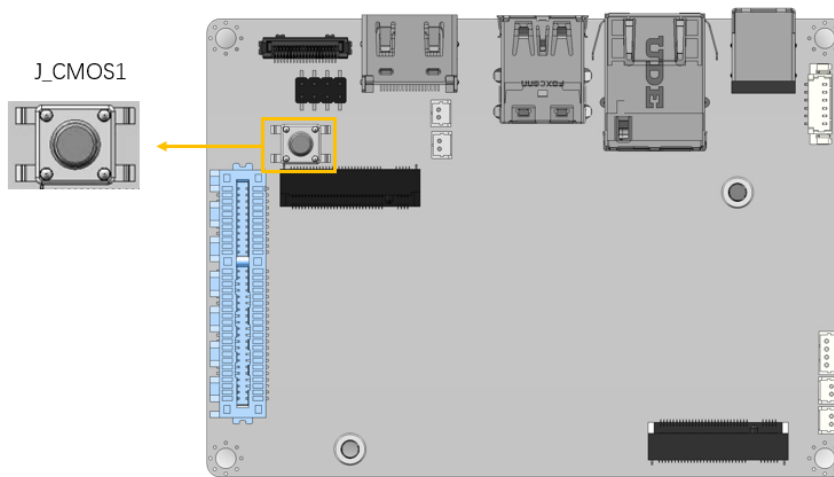

Figure 3-5: Clear CMOS Jumper Location
- CN Location:** See **Figure 3-5**